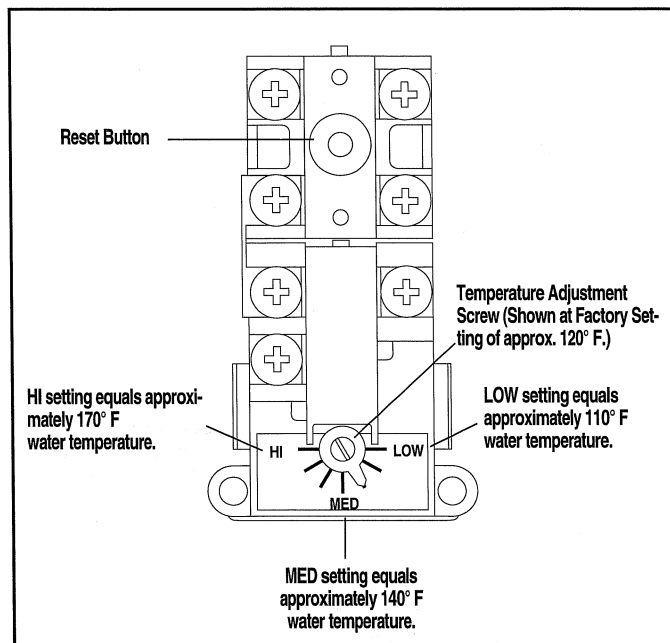

Figure 11 — Upper Thermostat temperature adjustment.
- B. Remove the four (4) screws securing the thermostat access panel and the two (2) thermostat insulation pads, exposing the thermostat. The plastic personnel protector **should not be removed**.
- C. With a small screwdriver, adjust the thermostat setting. This thermostat is marked LOW / MED / HI. The 120°F factory set position (the recommended setting) is at the 5 o'clock position (Refer to Figure 11). The temperature settings range from approximately 110°F (LOW) to approximately 170°F (HI). The MED position results in approximate water temperature of 140° F.
- D. Replace the two (2) pieces of fiberglass insulation over the thermostat and attach the thermostat access panel.